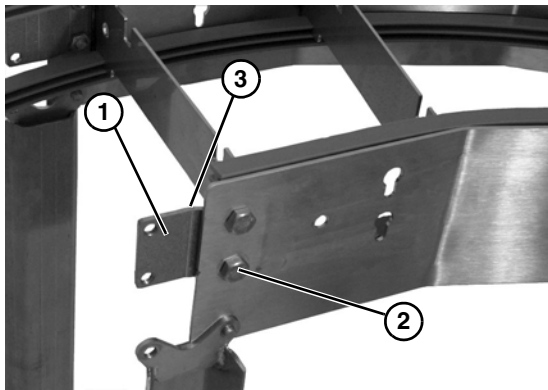

Figure 14
1. For joining curved to straight sections, install offset connecting plates onto curved section (Figure 14, item 1) with four hex head bolts (Figure 14, item 2) with heads of bolts outside of curved section.
2. Ensure that the offset of connecting plates is to the inside of curved section (Figure 14, item 3).